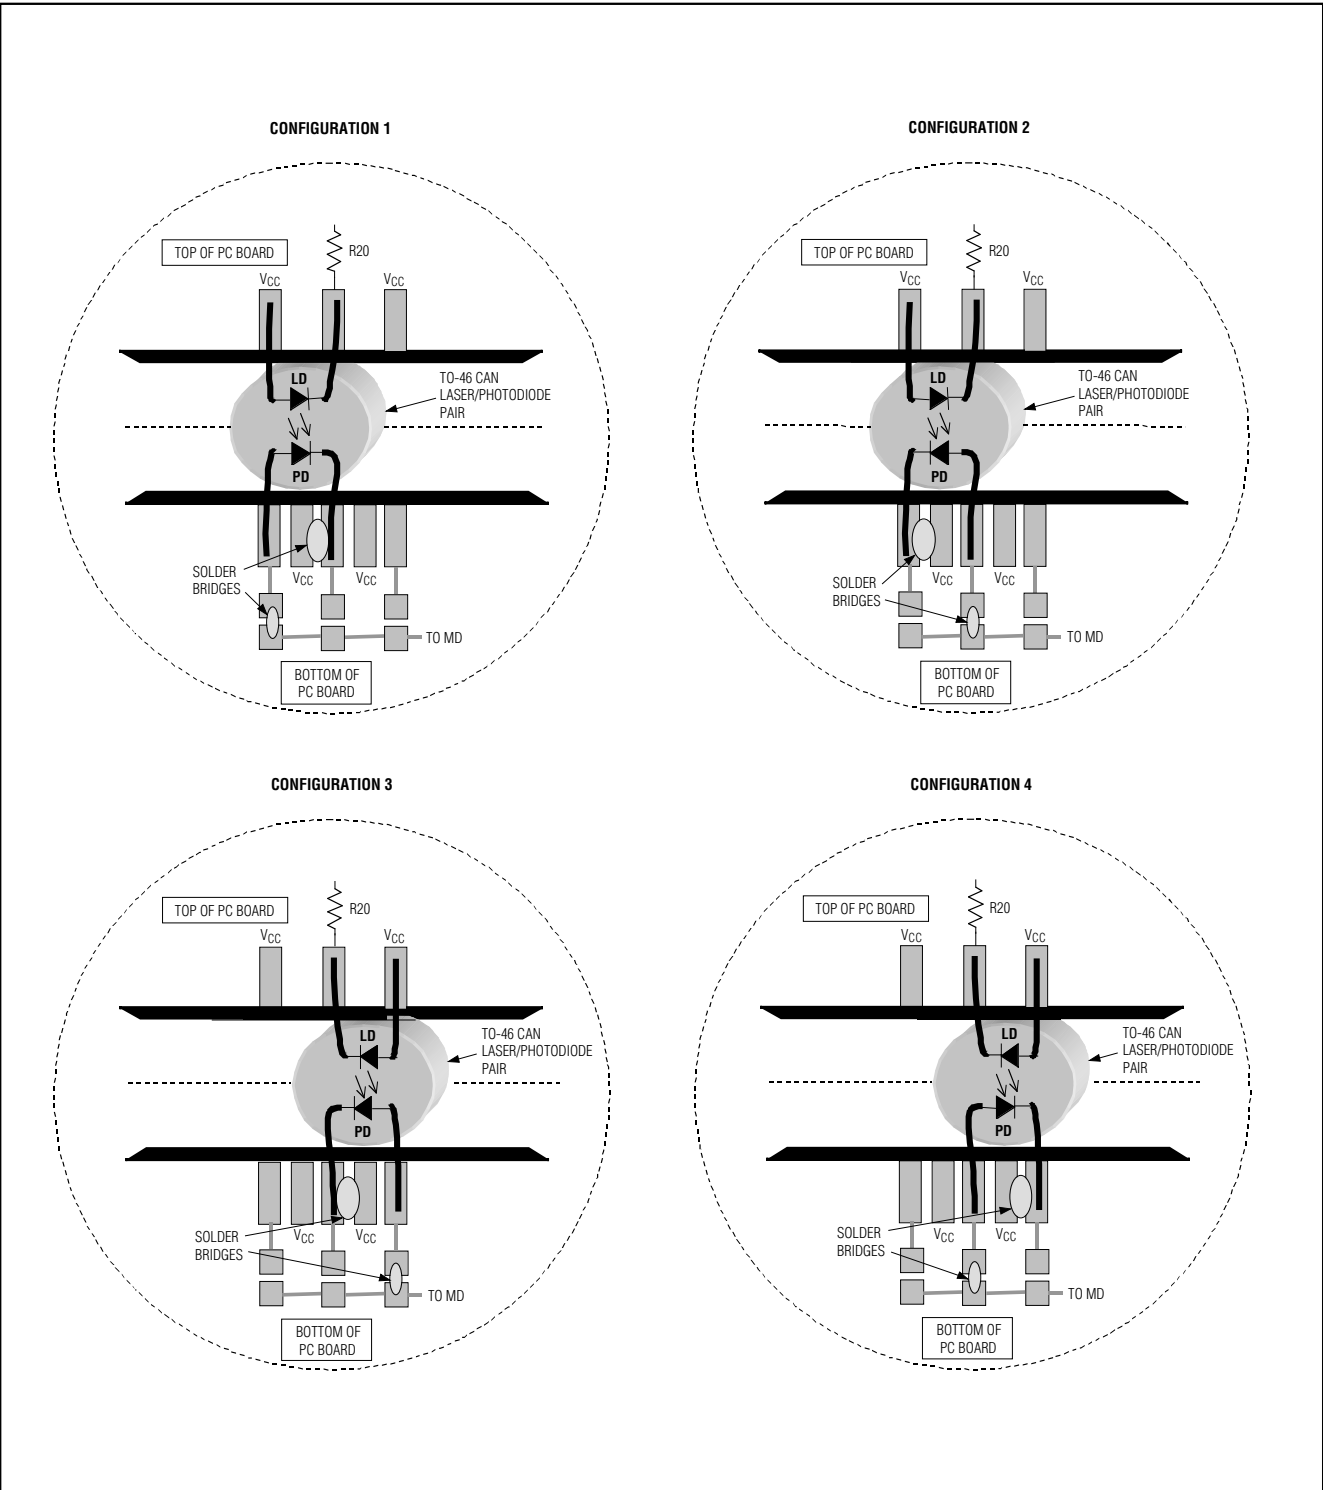

Figure 1. Attachment of Laser Diode/Monitor Diode to MAX3867 EV Kit
- 3) The EV kit is designed to allow connection of a variety of possible laser/monitor diode pin configurations. Connect a TO-header-style laser with MD (Figure 1) as follows:
- Connect the monitor photodiode to two of the five pads on the bottom (solder) side of the PC board, directly below the laser diode pads. Three of these pads (the middle and outside positions) are initially not connected. The other two pads are connected to V_{CC}. Solder the anode and cathode of the monitor photodiode to any two of the three pads that are not connected. Then connect the anode to the MD pin by shorting the corresponding solder jumper (Figure 1). Connect the cathode to V_{CC} by using solder to bridge to an adjacent V_{CC} pad.